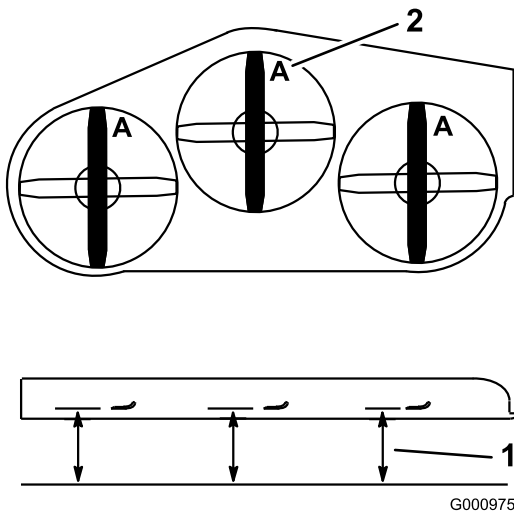

Figure 91
4. Measure at **A**, and from a level surface to the cutting edge of the blade tips (Figure 91).